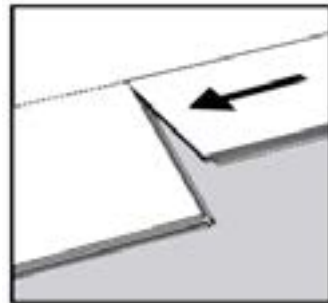

Figure 3
8. Install second board of the second row (same as step 7 above). Angle second board close to end joint of first board. Ensure board lays flat. *Figure 3.*